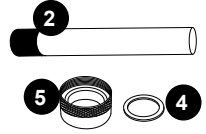

FIGURE 7
5. Remove the quartz seal compression nut (5) by turning it **counterclockwise**, Figure 5. Use a pair of channel-lock pliers if needed, Figure 6. You will notice that there is a stainless steel compression washer (4) which slides over the quartz tube, save the washer (4) for later use, Figure 7.